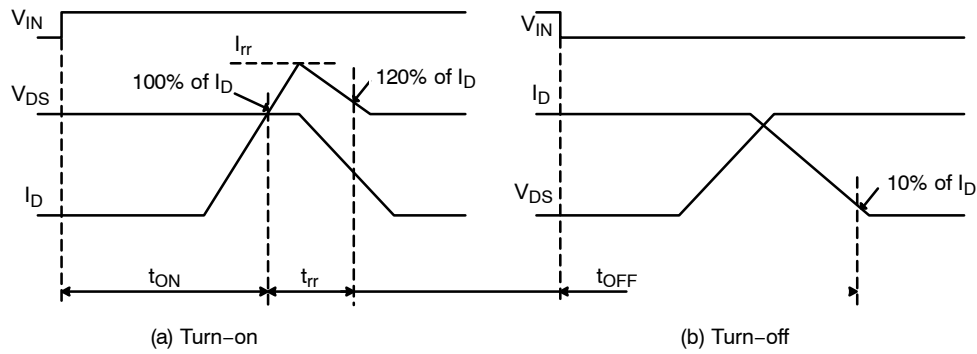
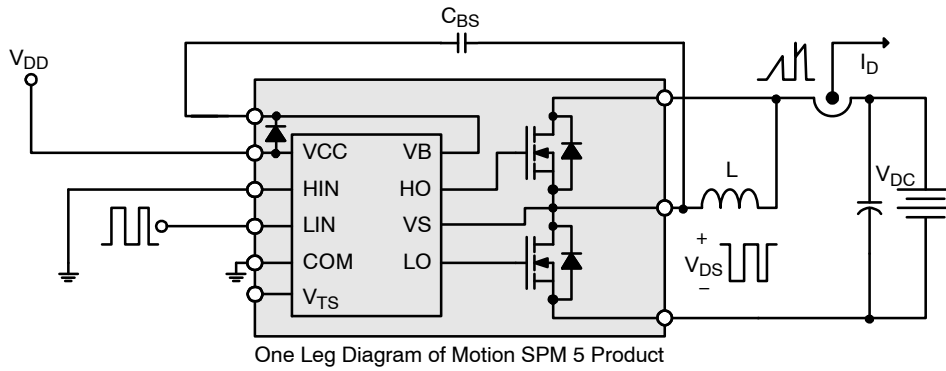

Figure 6. Switching Time Definitions
Figure 7. Switching and RBSOA (Single-Pulse) Test Circuit (Low-Side)
- $t_{ON}$  and  $t_{OFF}$  include the propagation delay of the internal drive IC. Listed values are measured at the laboratory test condition, and they can be different according to the field applications due to the effect of different printed circuit boards and wirings. Please see Figure 6 for the switching time definition with the switching test circuit of Figure 7.
- The peak current and voltage of each MOSFET during the switching operation should be included in the Safe Operating Area (SOA). Please see Figure 7 for the RBSOA test circuit that is same as the switching test circuit.